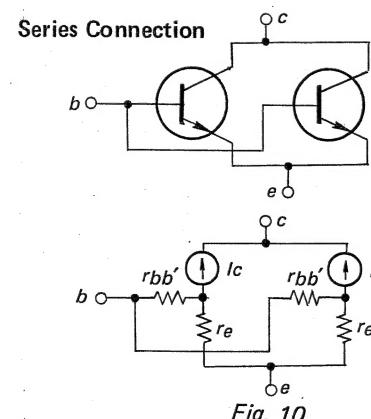

Fig. 10
In Fig. 10, two transistors are shown as connected in series. The  $r_{bb'} + r_e$  factor in the equivalent circuit will become  $\frac{1}{2}$ , so  $(r_{bb'} + \frac{r_e}{2})$  will also become  $\frac{1}{2}$ . Consequently, according to formula (2), noise will become  $1/\sqrt{2}$ , that is, a reduction of 3 dB. If  $n$  transistors are connected in series, noise will be reduced by  $1/\sqrt{n}$ .